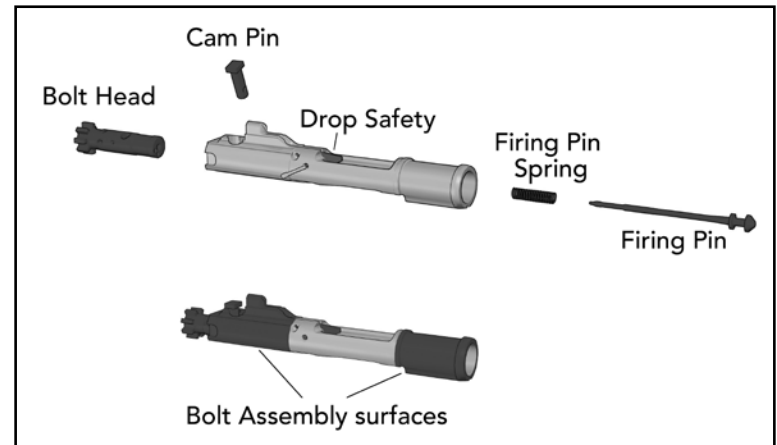

Fig. 56 – Lubrication of the MR762A1 Bolt Carrier Assembly
3. Apply a light coat of CLP to the firing pin, firing pin spring, and firing pin recess in bolt (Fig 56).